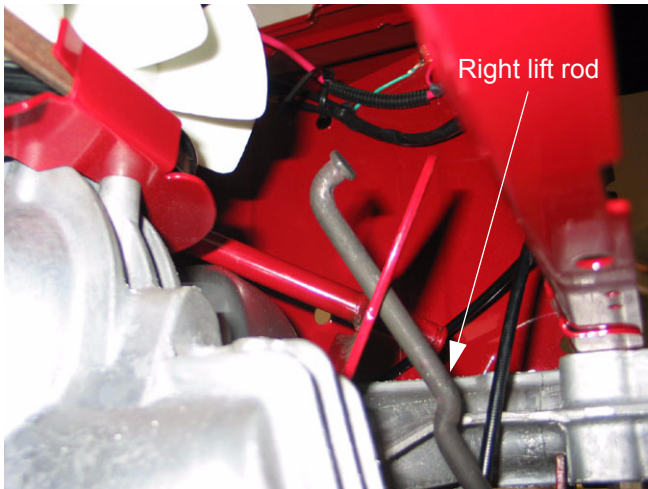

Figure 5.13
- 5.13. Rotate the lift shaft arms up and back so that the right side lift rod can be removed. See Figure 5.13.